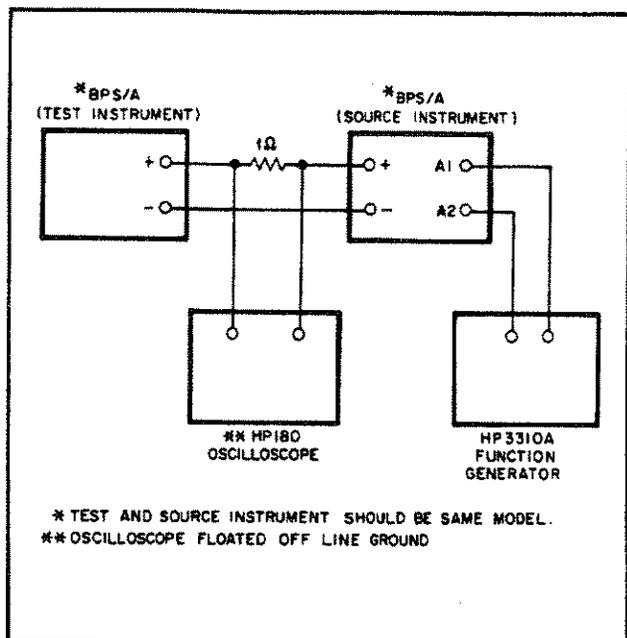

Figure 5-13. Current Sink Test Setup
e. Turn off test and source instruments and connect test setup of Figure 5-13.